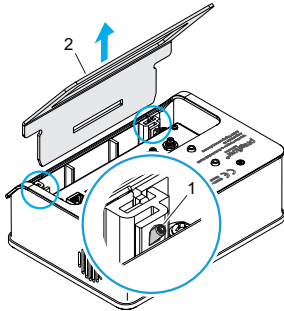
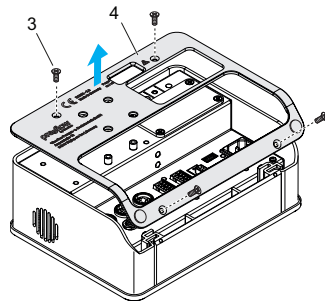

Fig. 171
Fig. 172
- ▶ Slightly loosen the screws (1) (Fig. 171).
- ▶ Pull the support (2) out of the locating slot.
- ▶ Unscrew the four M4 × 10 (3) (Fig. 172).
- ▶ Remove the cover (4).